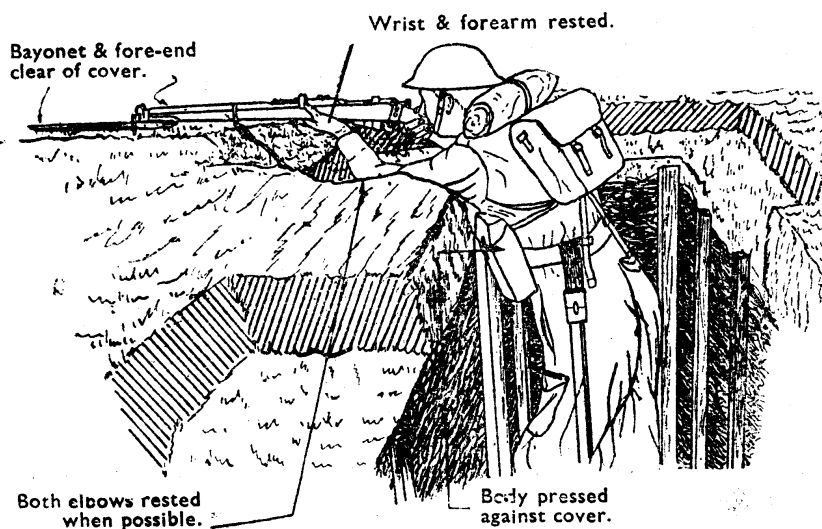

Fig. 12
- i. *Explain and demonstrate:-* “Positions of observation” and “Behind cover” and the actions of “Watch the front” are the same as for kneeling. Position of Readiness as for kneeling with probably slight differences such as both elbows rested, as in a trench. The body pressed against the cover if possible (*see* Fig. 12).